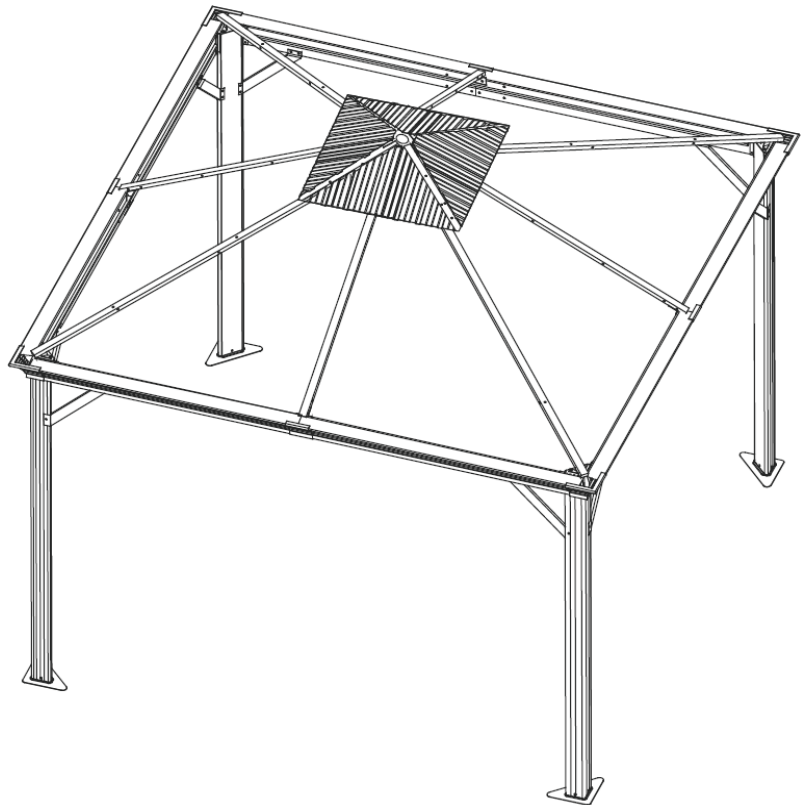

Figure 9-2
Step 9B: Repeat for opposite sides. **Tighten all Bolts.** See Figure 9-2.